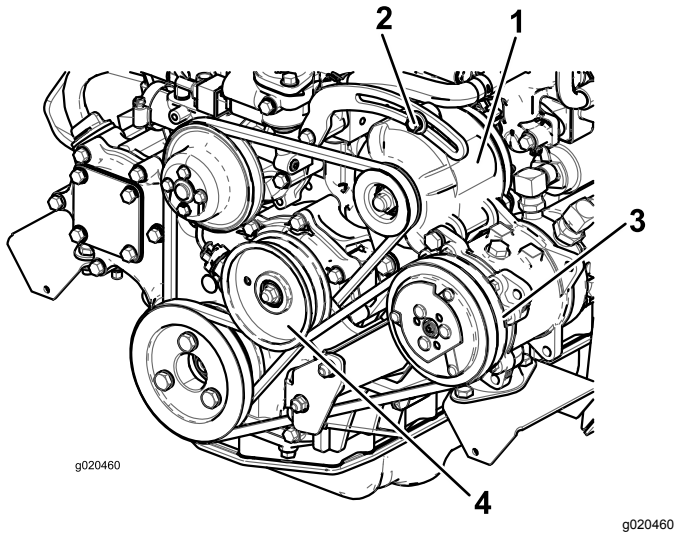

Figure 96
Check the condition and tension of the belt (Figure 96) after every 100 operating hours.
2. If the deflection is not 10 mm (3/8 inch), loosen the alternator mounting bolts (Figure 96). Increase or decrease the alternator belt tension and tighten the bolts. Check the deflection of the belt again to ensure that the tension is correct.